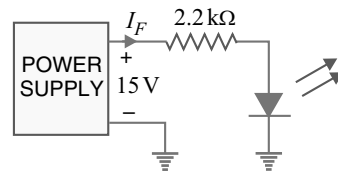

Fig. 5.5
**Example 5.2.** What is current through the LED in the circuit shown in Fig. 5.5? Assume that voltage drop across the LED is 2 V.